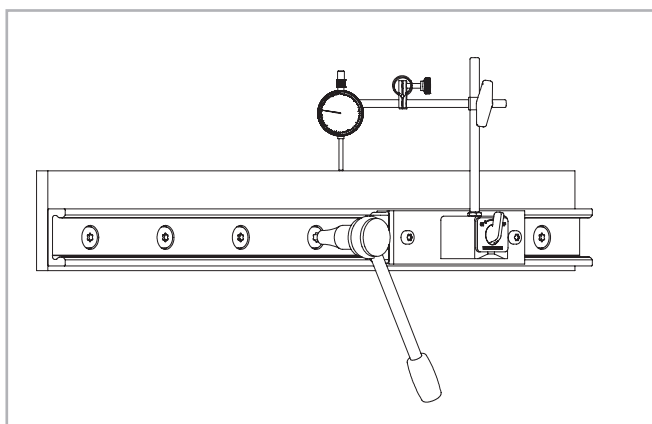

Fig. 68
(2) Install a dial indicator so that the offset of the rail to a reference line can be measured. Now position the slider in the center of the rail and set the dial indicator to zero. Move the slider back and forth between each two hole spacings and carefully align the rail. Fasten the three center screws of this area now with the specified tightening torque, see fig. 68.
(3) Now position the slider on one end of the rail and carefully align the rail to zero on the dial indicator.